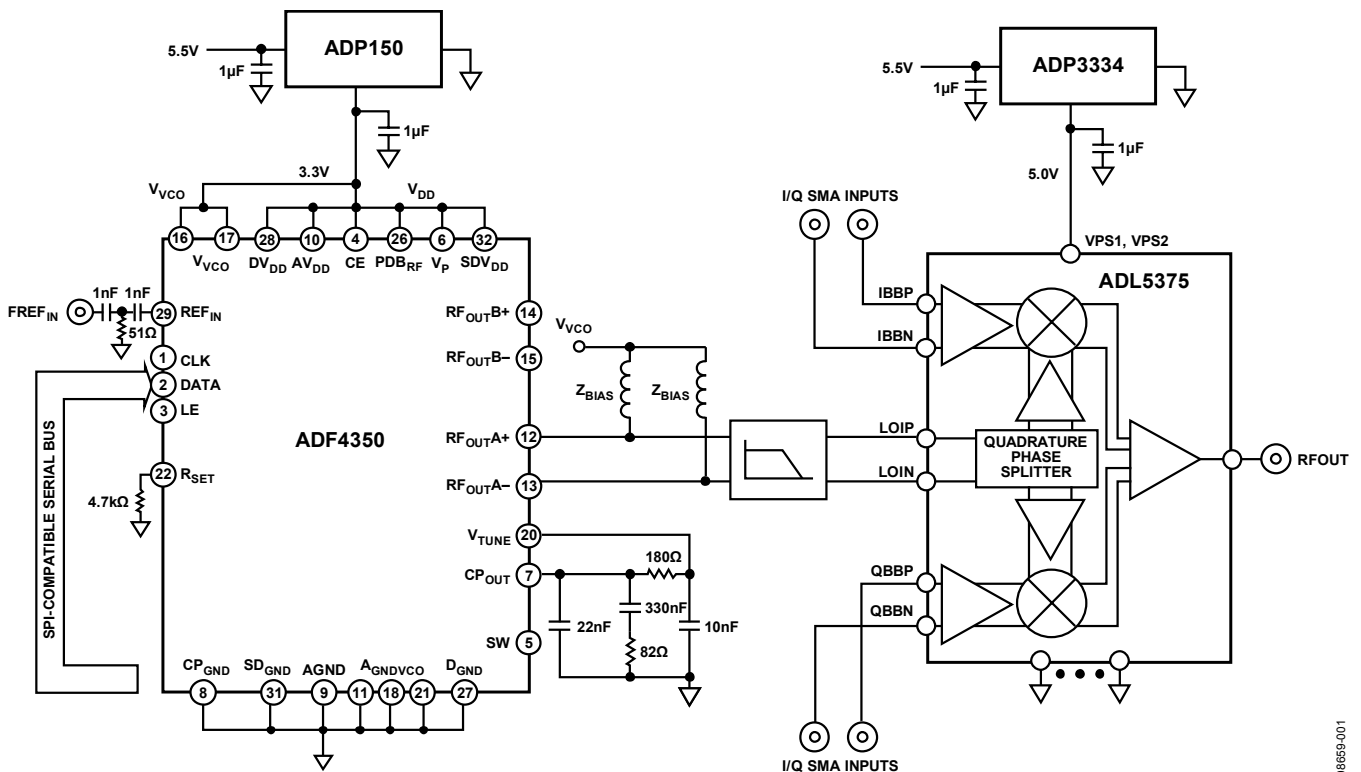
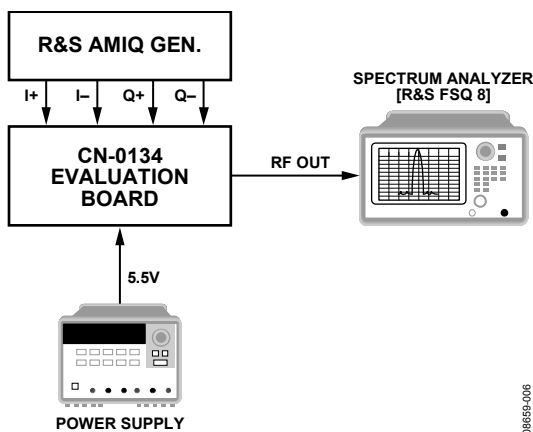

Figure 1. Direct Conversion Transmitter (Simplified Schematic: All Connections and Decoupling Not Shown)
Figure 6. EVM Measurement Setup (Simplified Diagram)
The circuit shown in Figure 1 utilizes the ADF4350, a fully integrated fractional-N PLL IC, and the ADL5375 wideband transmit modulator. The ADF4350 provides the local oscillator (LO) signal for the ADL5375 transmit quadrature modulator, which upconverts analog I/Q signals to RF. Taken together, the two devices provide a wideband baseband IQ to RF transmit solution. The ADF4350 is powered off the ultralow noise 3.3 V ADP150 regulator for optimal LO phase noise performance. The ADL5375 is powered off a 5 V ADP3334 LDO. The ADP150 LDO has an output voltage noise of only 9 μV rms and helps to optimize VCO phase noise and reduce the impact of VCO pushing (equivalent to power supply rejection).
EVM measurements are given in Table 3 comparing results with and without the filter. In this case the baseband I/Q signals were generated using 3GPP test model 4 using a Rhode and Schwarz AMIQ I/Q Modulation Generator with differential I and Q analog outputs. Filter b was also used. A block diagram of the test setup for EVM is given in Figure 6.
See Figure 1 and Figure 6 in circuit note CN-0134 and the CN0134-EvalGuide-RevA.pdf, Wideband TX Modulator Solution user document in the design support package.